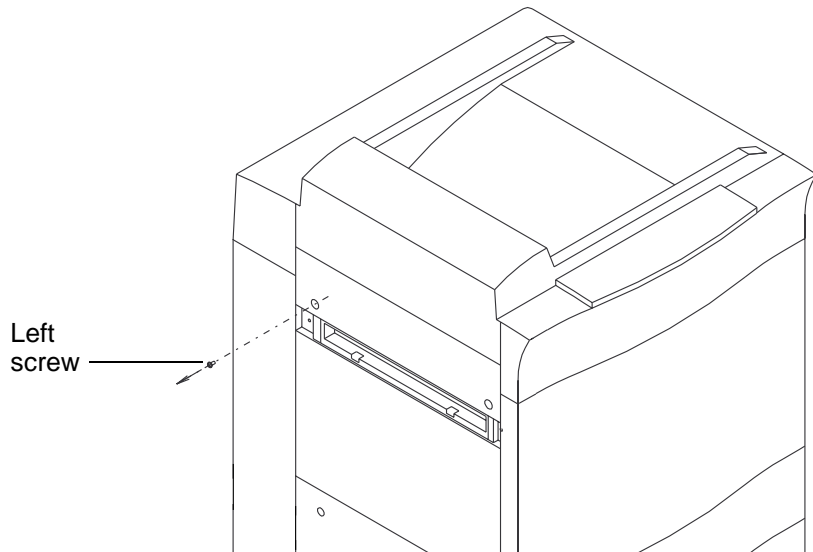

Figure 10 Removing the left screw in the upper cover
Step 2 Remove the left screw in the upper cover. See Figure 10.